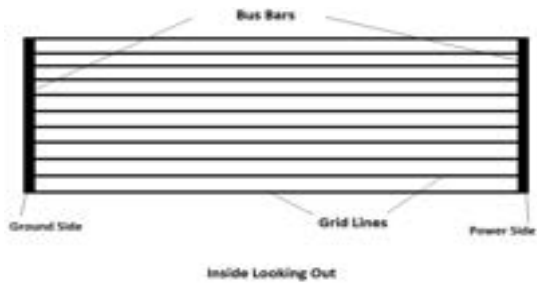

Figure 2: Proposed layout design for the copper tape
- The idea is to take the copper tape and to align it as seen in Figure 2
- Figure 2 shows the typical design for a rear window defroster on most modern cars. A current can be passed through the copper or other sort of conductive material with the hope that it will produce some heat. If I can hook up a circuit onto the incubator glass that can produce a little bit of heat and help reduce condensation build up it will be a success.